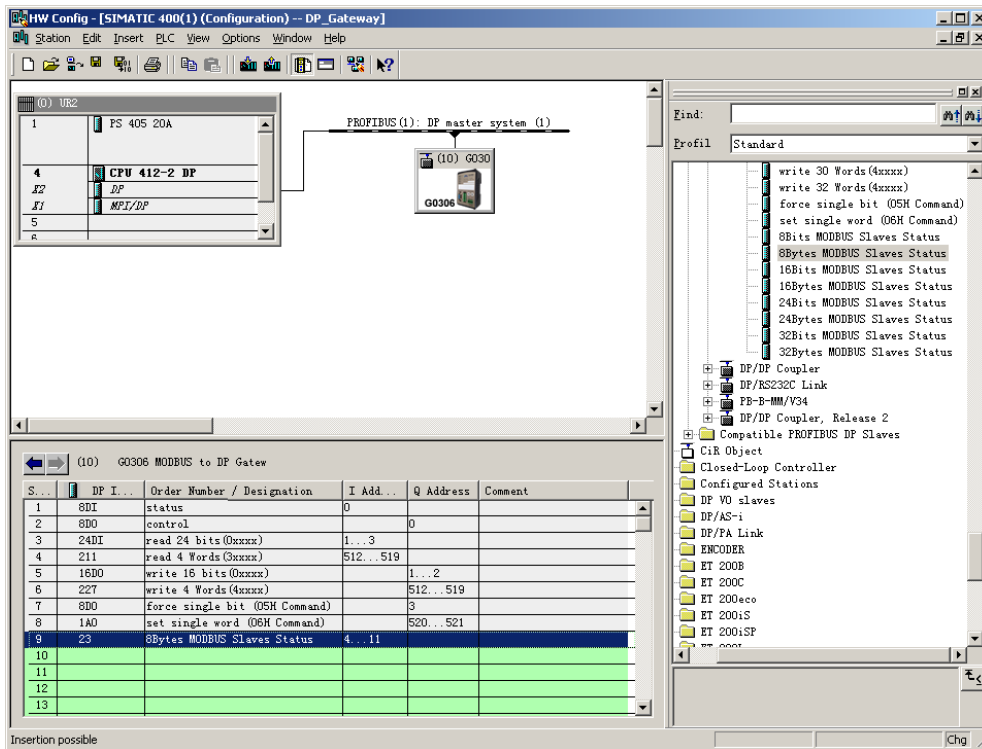

Figure 38 Add “8Bits MODBUS Slaves Status” Module
b) Add “8Bits MODBUS Slaves Status” Module, shown in Figure 38: